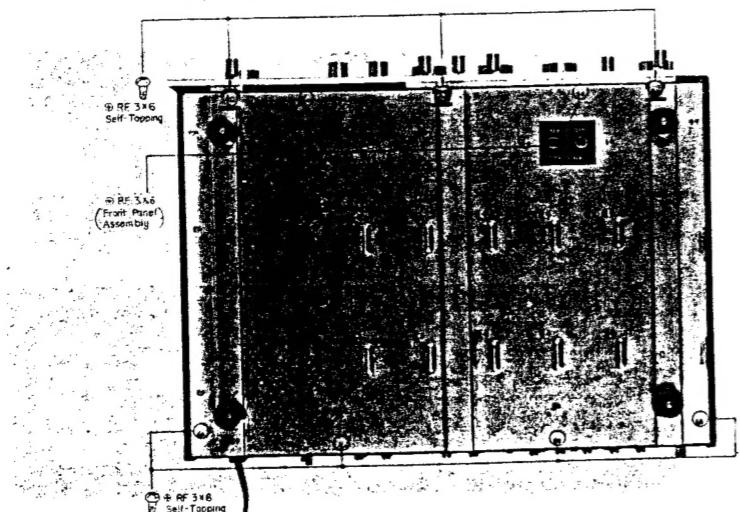

Fig. 2-3. Removal of Front-Panel Ass'y
- d. Turn the set over and remove the two self-tapping screws (+RF3 ϕ x 6) from the front-bottom edge of the chassis. See Fig. 2-3.
- Turn the set over and remove the three Phillips-Head screws (+RF3φ × 6) at the front-bottom edge of the chassis. See Fig. 2-3. This frees the Front Panel.